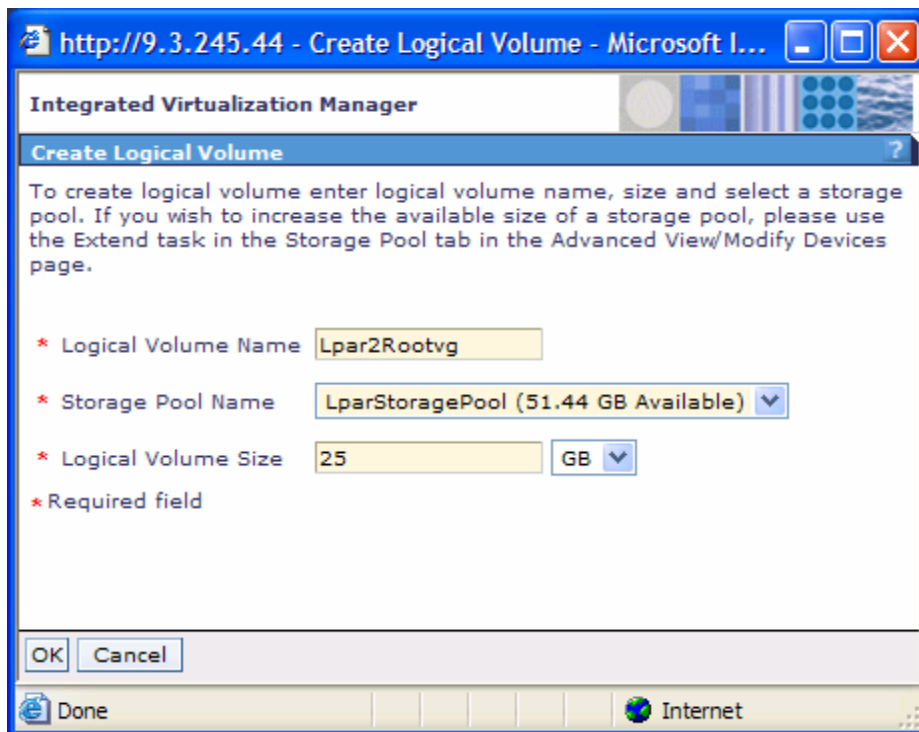

Figure 46. Specifying the disk-space size for a logical partition
2. In the pop-up window shown in Figure 46, type **25** for Logical Volume Size. Then, click **OK**.